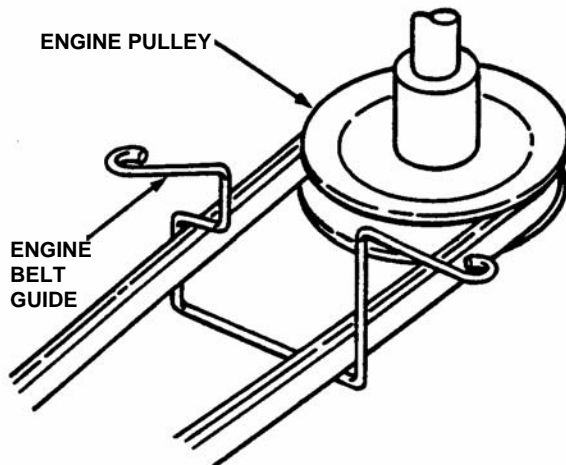

FIGURE 4.14
4. Route new belt through engine belt guide up to engine pulley. See Figure 4.14.